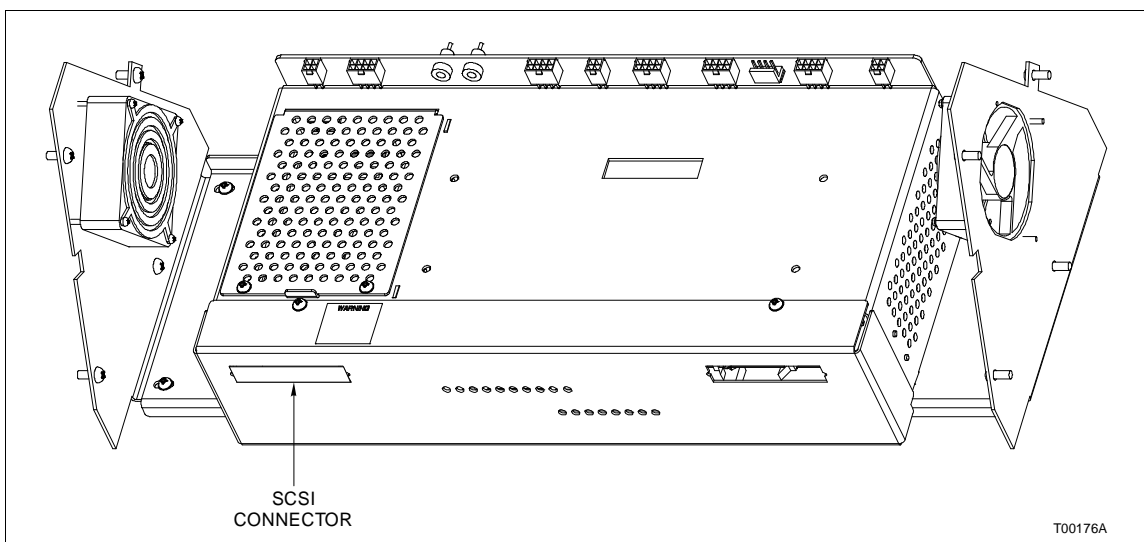

Figure PR44-1. SCSI Port
- 6. Remove the SCSI terminator from the SCSI connector on the NIU card cage. (Fig. PR44-1).